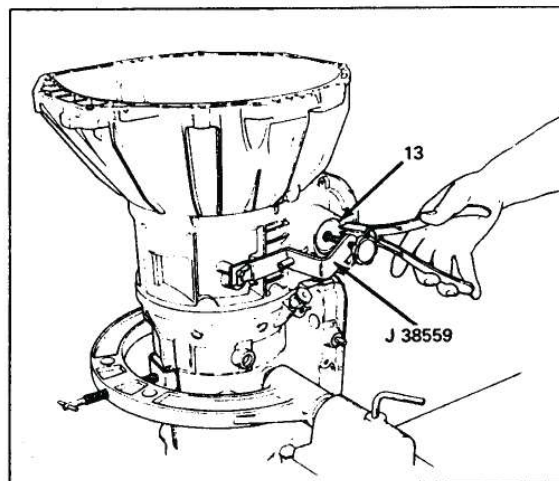

Figure 34
3. Install the accumulator cover remover J-38559 to the adapter case as shown in Figure 34.
6. Using snap ring pliers, remove the snap ring, as shown in Figure 34.